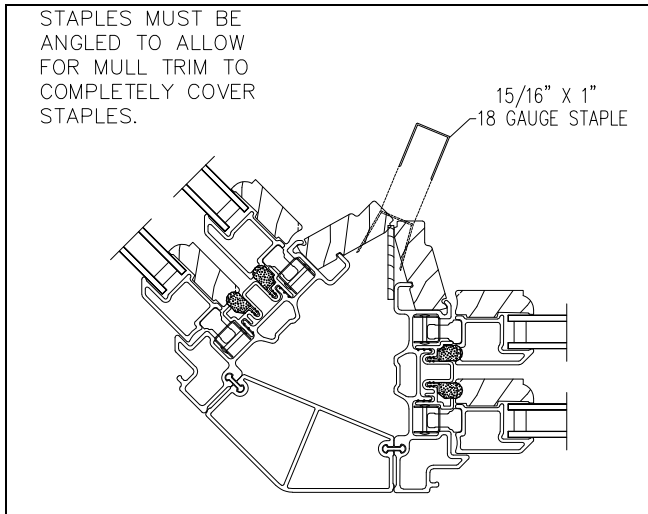

Figure 15
**9.** Fasten interior mulled side jambs with 15/16" x 1" 16 gauge staples spaced 4"-6" (102-152) apart. Place staples diagonally into jamb liners so interior mull trim will cover the staple heads. See Figure 15.